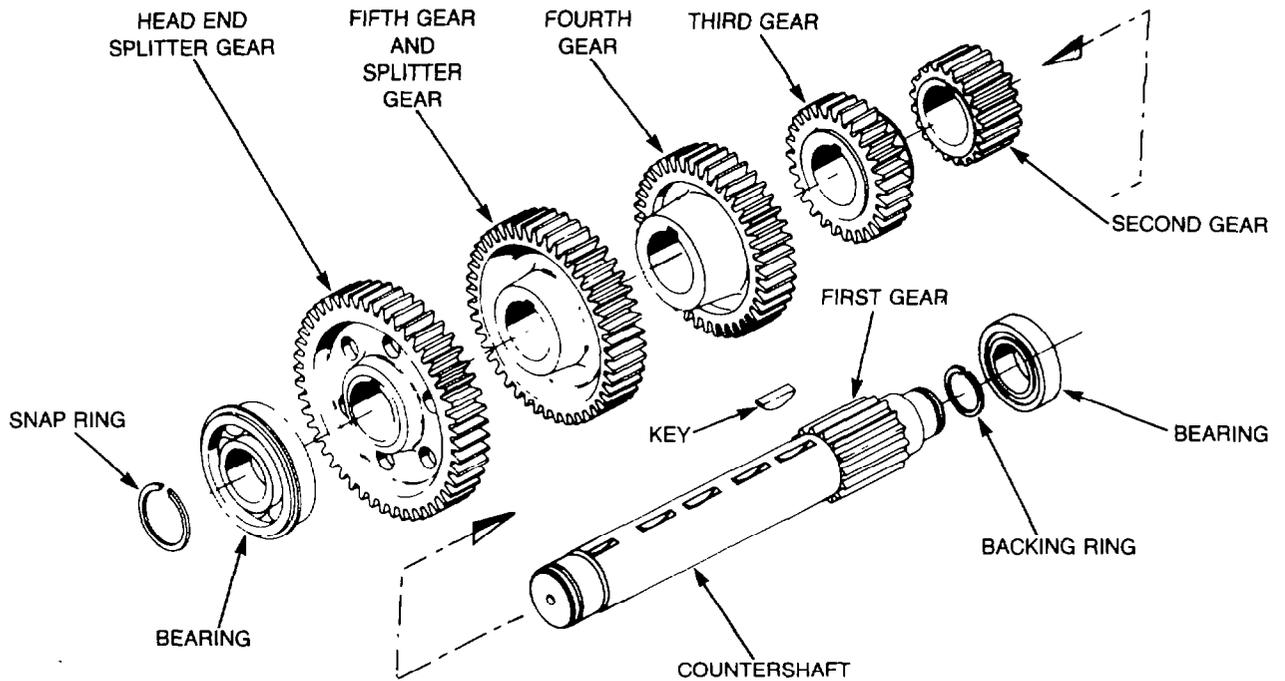
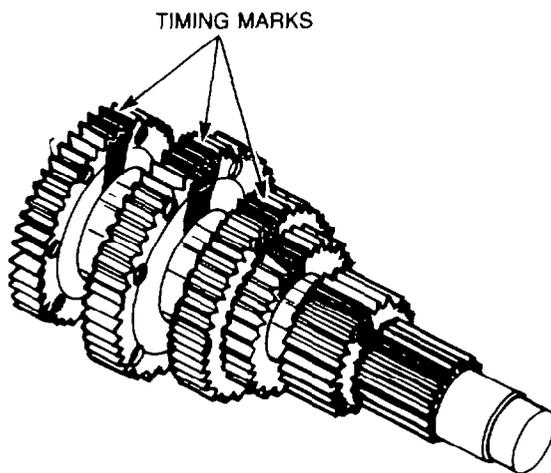

Figure 172 — Countershaft — Exploded View
Figure 173 — Timing Mark — Highlighted
- a. Assemble the countershaft by installing in turn, each Woodruff key and gear onto the countershaft, in the order shown in Fig. 172. Paint the teeth on each gear as the gear aligns with the timing mark on the head end gear (see Fig. 173).